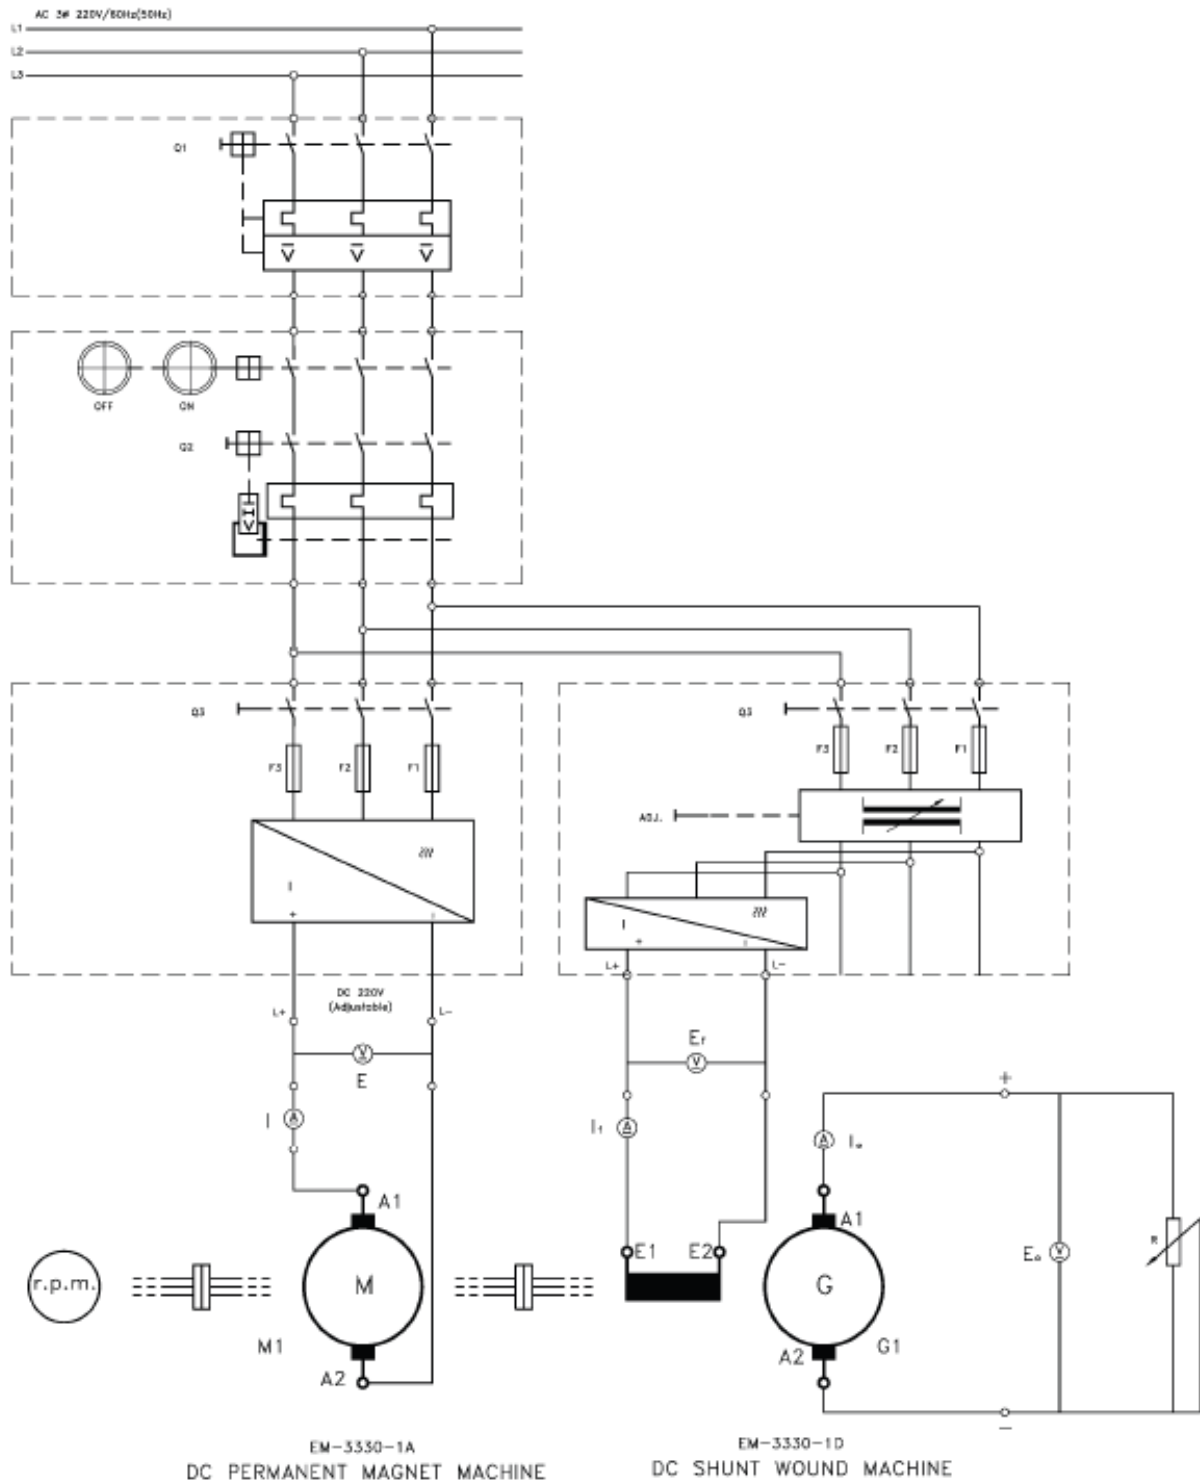
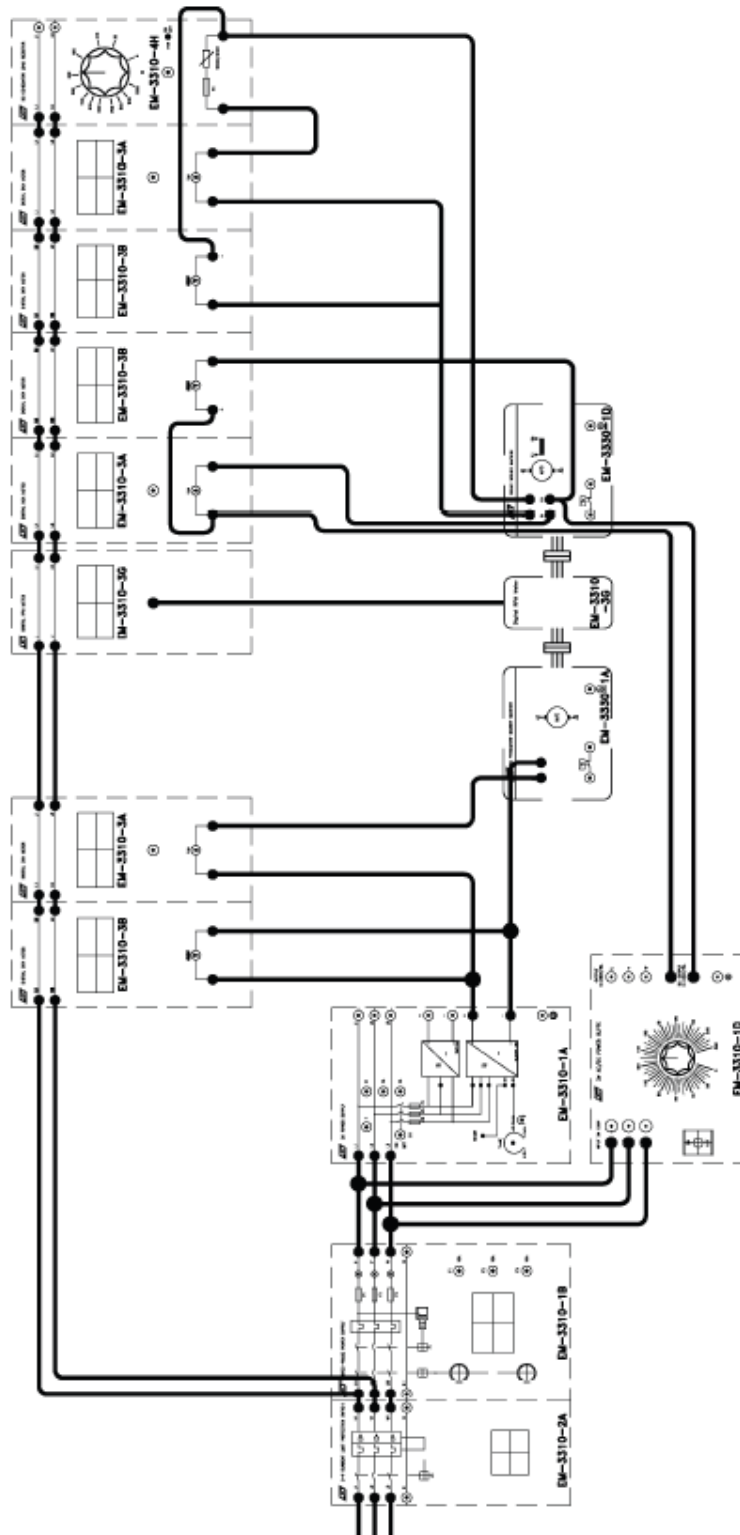

Fig. 9-2-1 Circuit diagram for load characteristic test
Fig. 9-2-2 Connection diagram for load characteristic test
2. Install the required Modules in the Experimental Frame. Construct the circuit in accordance with the circuit diagram in Fig. 9-2-1 and the connection diagram in Fig. 9-2-2. Have the instructor check your completed circuit.